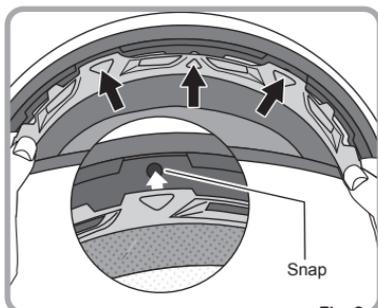

Fig. 2
- ② Insert the 3 snaps on the front as shown in Fig. 2.